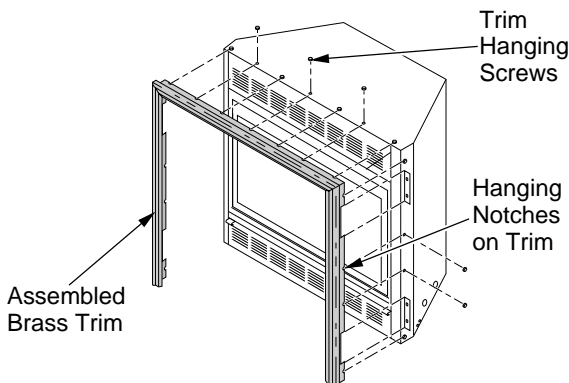

Figure 7 - Attaching Brass Trim to Fireplace
8. Tighten trim hanging screws (#10 x 6.25 shoulder) into holes in cabinets. Place the assembled trim onto fireplace cabinet. Align hanging notches on trim with hanging screws on side of fireplace (see Figure 7). Push trim firmly into place, sliding hanging notches over hanging screws.
10. Install brass trim after final finishing and/or painting of wall (see Figure 7, page 8).
16. Install brass trim after final finishing and/or painting of wall (see Figure 7, page 8).